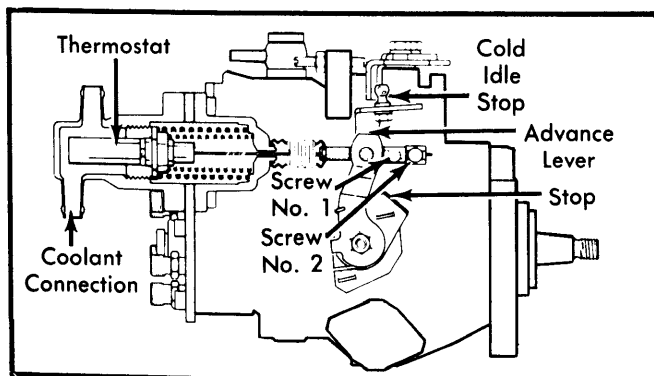

Fig. 11 Loosening Cold Start Device Screw No. 1.
2) If timing adjustment is necessary, remove plug from injection pump cover and install adapter and dial indicator in place of plug. On Audi models only, loosen cold start device cable by loosening screw No. 1 and turning clamp 90°. See Fig. 11.